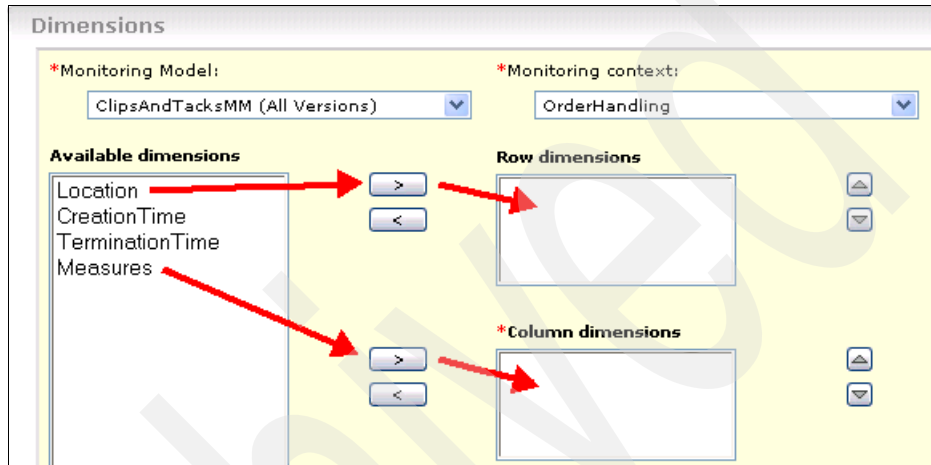

Figure 5-114 Configuring the Dimensions view
3. In the Dimensions panel (Figure 5-114):